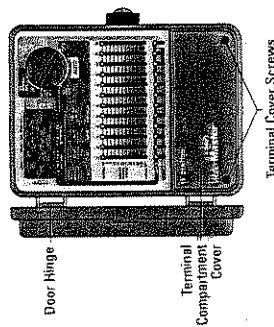

FIGURE 21: Outdoor Timer, Showing Terminal Cover **FIGURE 22: Back of Timer Box**
- Take off the terminal compartment cover by unscrewing the two screws and pulling the plastic cover forward. [See figure 21], this reveals the AC Power Cover [Figure 23].
- Take off the terminal compartment cover of the controller by unscrewing the two screws and pulling the plastic cover forward. [Figure 21].